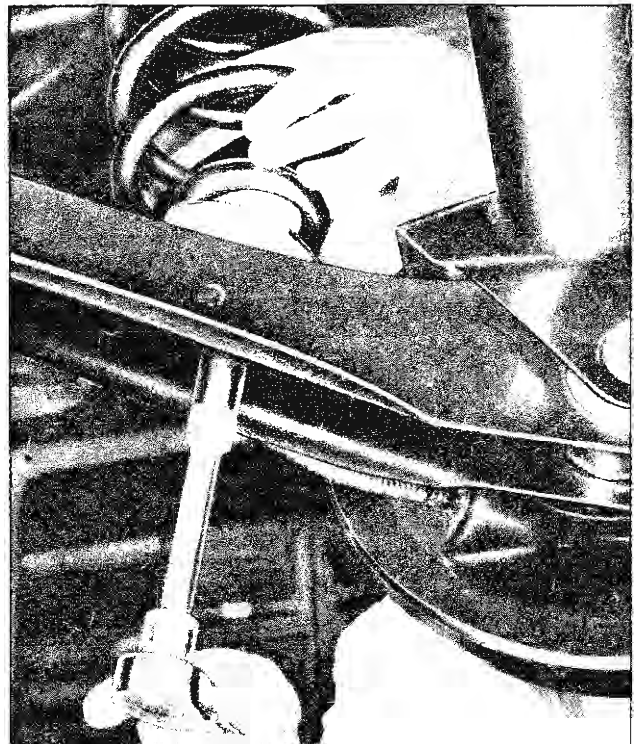

Fig. 7—Installing Coil Spring to Lower Control Arm
2. Position clamp inside lower coil, then install spring seat between spring and lower control arm. Align spring seat and clamp with control arm then install retaining bolt and nut (fig. 7).